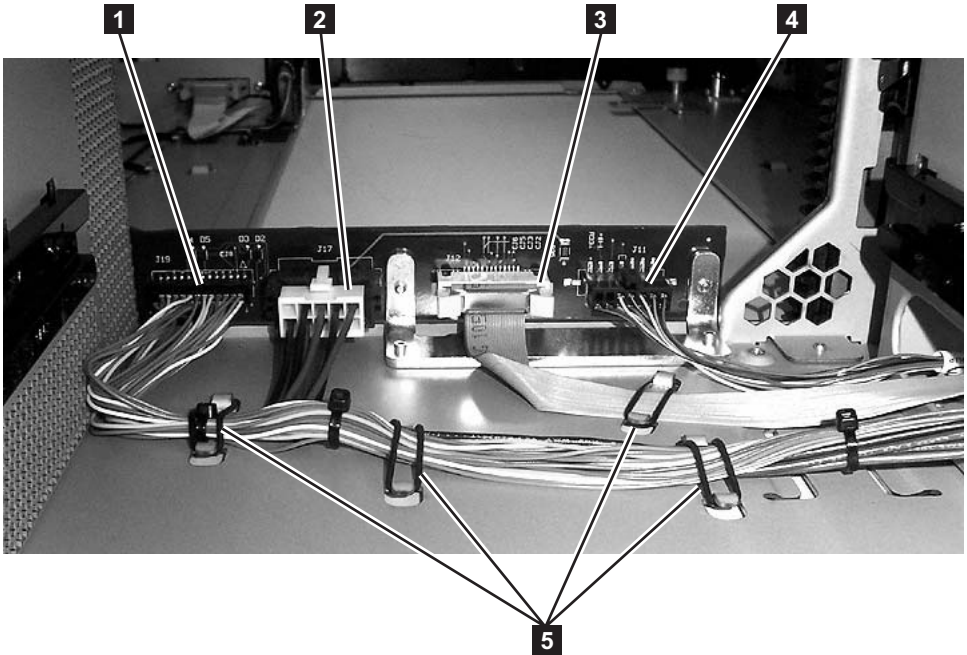
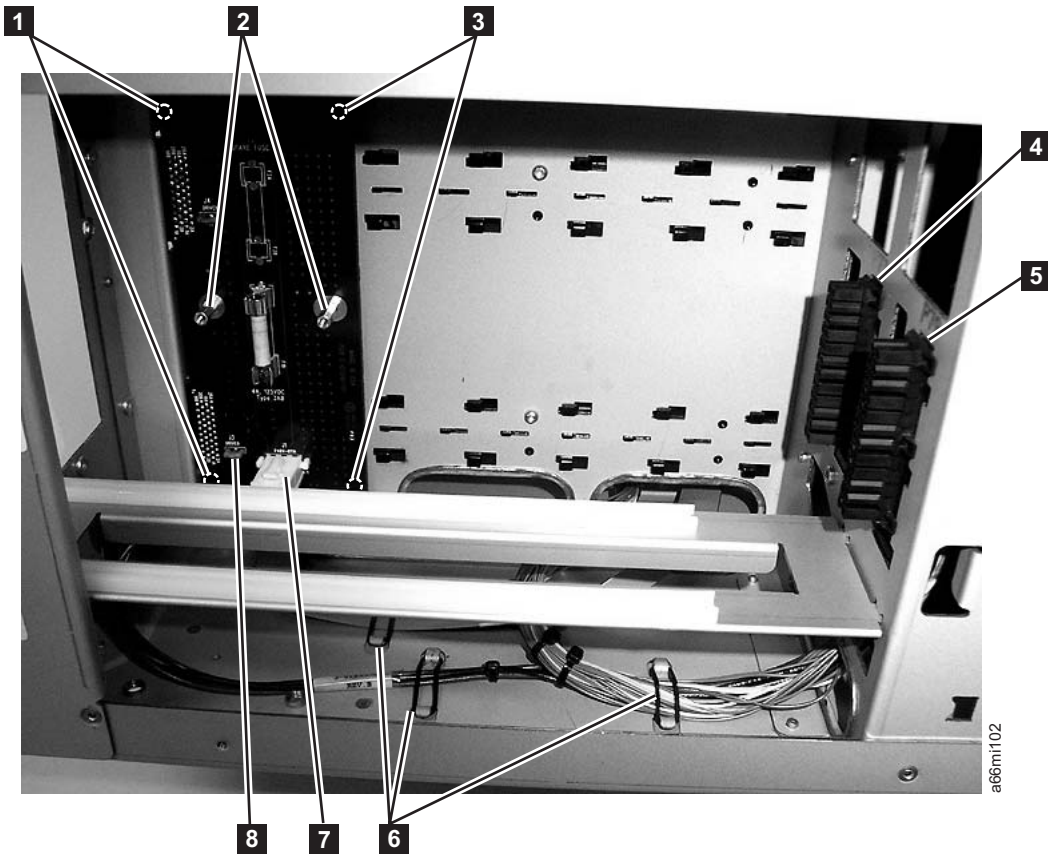

Figure 8-76. Backplane Connector Board (BCB), Rear View
Figure 8-77. Drive Sled Interface Board (DSIB), Side Cover Removed
- c. Remove the cable retainers (**5** in Figure 8-76 on page 8-78 and **6** in Figure 8-77 on page 8-78).
- d. Remove cable connectors J77 (**4** in Figure 8-77 on page 8-78) and J79 (**5** in Figure 8-77 on page 8-78). Pinch the lower part of the connector, press towards the front and slide down to remove the connector from the frame.
- e. Unplug the 2 connectors P17 and P19 from the BCB (see **2** and **1** in Figure 8-76 on page 8-78).
- f. Remove the 2 screws (**2** in Figure 8-77 on page 8-78) and remove the protective cover over the DSIB.
- g. Unplug the 1 power connector P1 (**7** in Figure 8-77 on page 8-78) from the DSIB.
- 1) Unplug connector P2 (**8** in Figure 8-77 on page 8-78) from the DSIB.
- 2) Unplug connector P12 (**3** in Figure 8-76 on page 8-78) from the BCB.
- a. Remove the 2 hex stand-offs (**2** in Figure 8-77 on page 8-78) from the DSIB. This requires a 4.5 mm (3/16-inch) wrench.
- b. The DSIB is held to the frame by slotted pins (**1** and **3** in Figure 8-77 on page 8-78) in all 4 corners of the board.
- 1) Using a flat blade screwdriver, carefully pry the 2 front corners of the board (**3** in Figure 8-77 on page 8-78) from the mounting pins.
- 2) Put finger pressure on the drive connectors on the back of the DSIB one at a time, while you move the board back and forth to pull it from the corner mounting pins (**1** in Figure 8-77 on page 8-78).